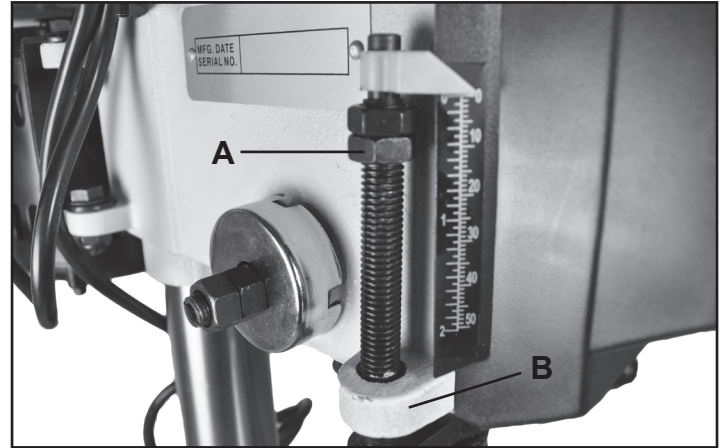

FIG. 7
8. **DEPTH STOP:** The depth stop and scale are found on the left side of the switch box. To adjust, lower the drill chuck until the pointer shows your desired depth on the scale. Loosen the lower nut on the threaded shaft (FIG. 7, A) until it bottoms out on the head casting (B). Tighten upper nut against the lower nut to retain the adjustment.